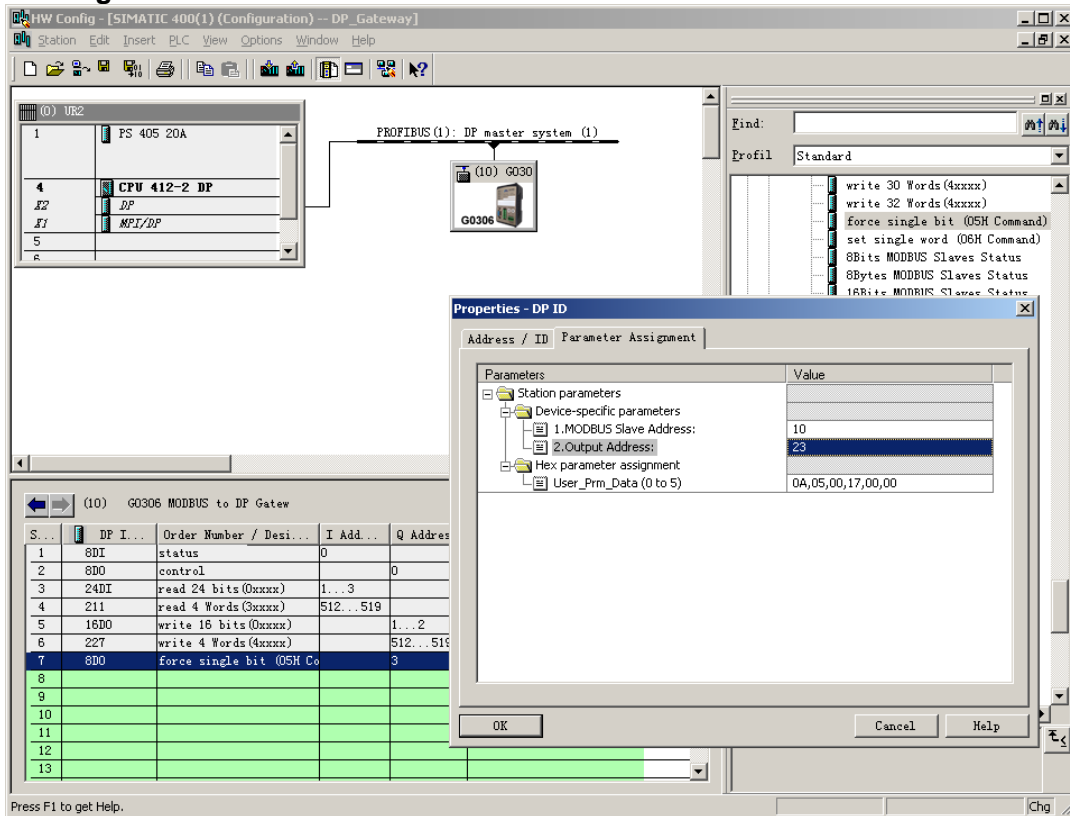

Figure 29 Configure User Parameters of “force single bit (05H Command)” Module
b) Configure user parameters of “force single bit (05H Command)” module, shown in Figure 29:
"1.MODBUS Slave Address: "⇒Type MODBUS slave address 10, shown in Figure 29.
"2.Output Address:" ⇒Type output address 00024 of coil 0xxxx to be written, set address as 23⇒"OK", shown in Figure 29.
As shown in Figure 29, QB3 is PROFIBUS output address of Modbus module assigned by PROFIBUS master station, total 1 byte, corresponding to single coil (0xxxx) of Modbus device written by the Modbus message. The Modbus module sends Modbus command 05 based on QB3 value, set single coil 0xxxx of the Modbus device to 1 or 0. Here single coil output address is 00023, if QB3=0, send command to set single coil 00024 to 0; If QB3≠0, send command to set single coil 00024 to 1.